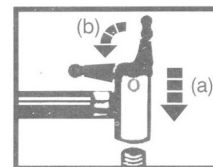

Fig. 1
2. Attach the universal quick-connect adaptor from the air inflator to the tire valve stem with the locking lever in the up position. Be sure to press down over valve stem threads completely (Fig. 1-a). When connector is firmly in place, press locking lever down to lock onto valve stem (Fig. 1-b).